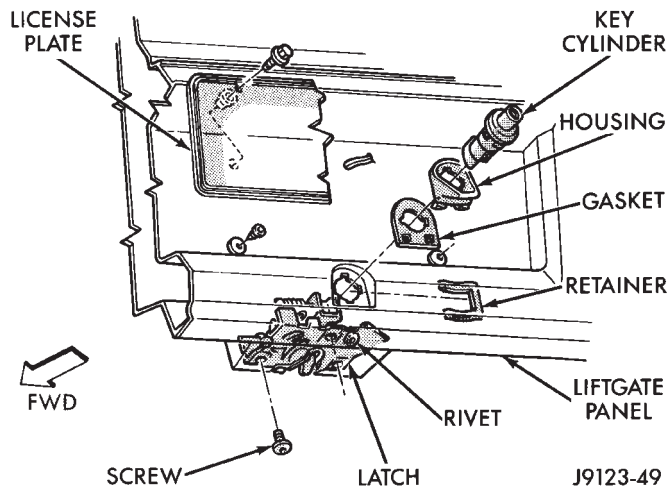

Fig. 126 Liftgate Key Lock Cylinder and Latch
- (1) Install the key lock cylinder. Secure the lock cylinder with the retainer clip (Fig. 126).